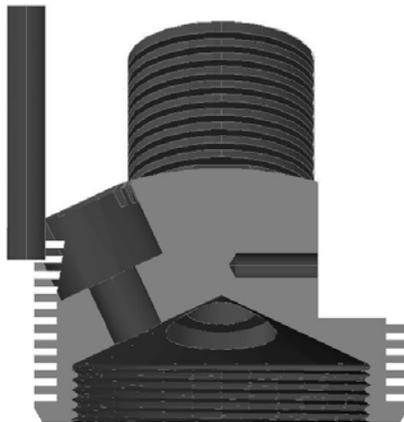

Figure 6
2. Mill a 0.360” wide slot centered on the sparkplug well down through the first fin that was notched when putting in the top grooves as shown in Figure 6.